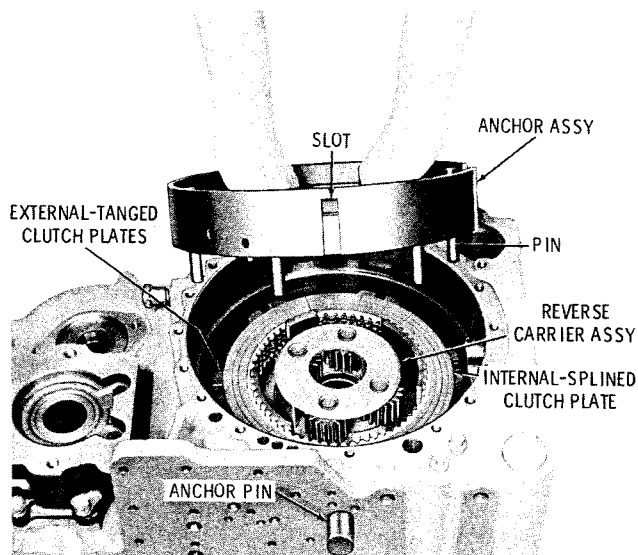

Fig. 7-18. Installing forward and reverse clutch anchor assembly (-3 model)
(1) Follow the instructions in 7-3a(1) through (4), above. Install the clutch anchor pin, letting it project from the housing (so that anchor can be rotated).
(2) Install forward and reverse clutch anchor assembly, longer ends of pins first. Engage the pins with the slots in the external-tanged clutch plates. Aline the slot in the anchor with the clutch anchor pin (fig. 7-18). Push the anchor pin inward, to engage the slot in the anchor.